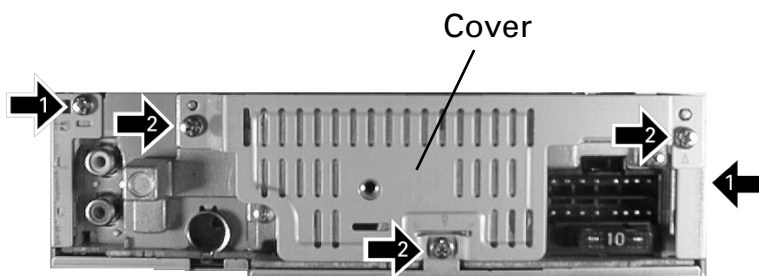

Fig.2
- ➡ 1 Remove the two screws (Fig.2).
- ➡ 2 Remove the three screws and then remove the Cover (Fig.2).